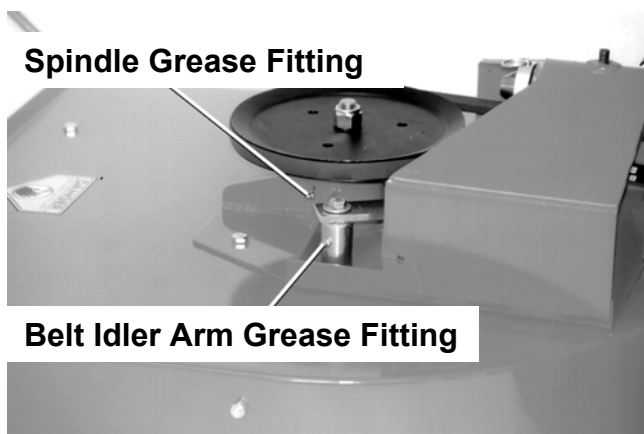

Figure 10
1. There are two grease fittings below the black belt guard that need maintenance (*Figure 10*):